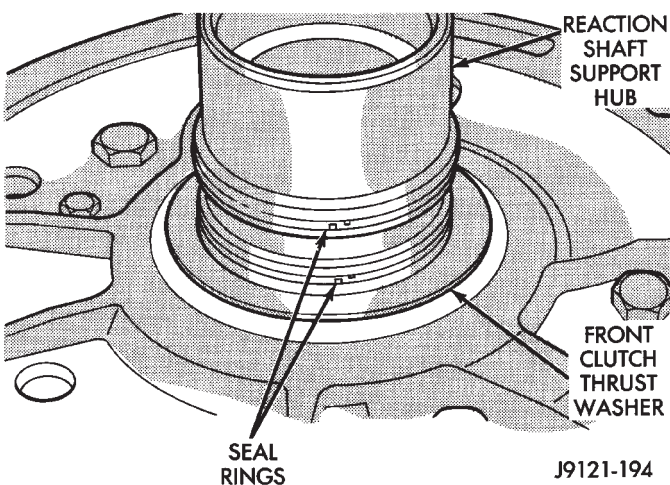

Fig. 162 Reaction Shaft Support Seal Rings And Front Clutch Thrust Washer Position
(30) Push front band lever shaft completely into place. Then tighten band adjusting screw until band just grips clutch retainer. Verify that front/rear clutches are still seated before continuing.
(31) Coat band reaction pin access plug with sealer and install plug in converter housing.
(32) Check seal rings on reaction shaft support hub. Verify that seal rings are hooked together and that front clutch thrust washer is properly positioned (Fig. 162). Use extra petroleum jelly to hold thrust washer in place if necessary.